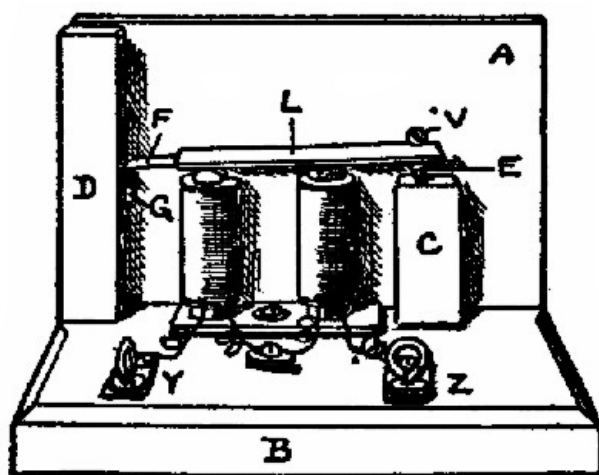
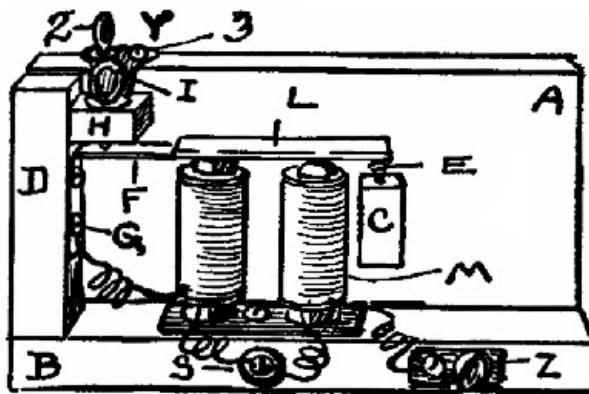

Fig. 95.
Fig. 100.
**199. Telegraph Sounder.** Fig. 95. This makes a simple and efficient sounder for short lines. The base, *B*, is  $7 \times 4\frac{1}{2} \times \frac{7}{8}$  in. The back, *A*, is  $7 \times 4\frac{1}{2} \times \frac{1}{2}$  in.; it is nailed to *B*. The piece *D* is  $4 \times \frac{3}{4} \times \frac{3}{4}$  in.; it is nailed to *A*. *C* is a wooden piece  $1\frac{1}{2} \times \frac{3}{4} \times \frac{3}{4}$  in.; it is nailed to *A*, and in its top is a screw, *E*, which is used as a regulating-screw to keep the armature, *L*, from touching the poles.
213. **Electric Buzzer.** Fig. 100. A buzzer is, in construction, very similar to an electric bell; in fact, you will have a buzzer by removing the bell from any ordinary electric bell. They are used in places where the loud sound of a bell would be objectionable. As the buzzer is easier to make than a bell, we shall discuss it first.
214. The arrangement of the parts, (Fig. 100), is very much like that of the sounder of App. 121, Fig. 95. The armature is, in this case, a vibrating one and acts on the same principle as the automatic interrupter on App. 100, which you should study. (See § 148.) The general dimensions may be taken from App. 121. The base, *B*, in this case is about 1 in. wide. *D* also is made 1 in. wide. *H* is  $1 \times 1 \times \frac{1}{2}$  in., and is nailed to *A*. Through its center is a hole for the regulating screw-eye, *I*. The end of *I* presses against *F*. The exact position of *H* will have to be determined after the magnets are in place. The armature, *L*, should be about  $\frac{1}{8}$  or  $\frac{3}{16}$  in. above the poles. They are not allowed to strike the poles, as a screw, *E*, regulates that. (See § 203). *Y* and *Z* are two binding-posts, like App. 46. To these are connected the battery wires. The strip of tin or copper, which forms *Y*, is cut like a letter **T** there being three holes in it, one near the end of each arm. The screw-eye, 2, and the screw, 3, are put through the horizontal part of the **T**, and the regulating-screw, *I*, passes through the hole in the vertical part which springs up against *I*, thus forming an electrical connection between *Y* and *I*. The magnets are made and fastened as in App. 89.